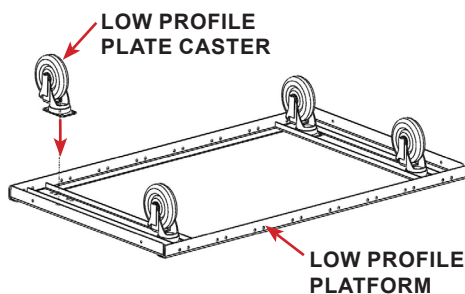

FIGURE 2.13 - Single Cage Platform
**STEP 1:** For single cage platforms, align the plate caster with the platform framing. See FIGURE 2.13